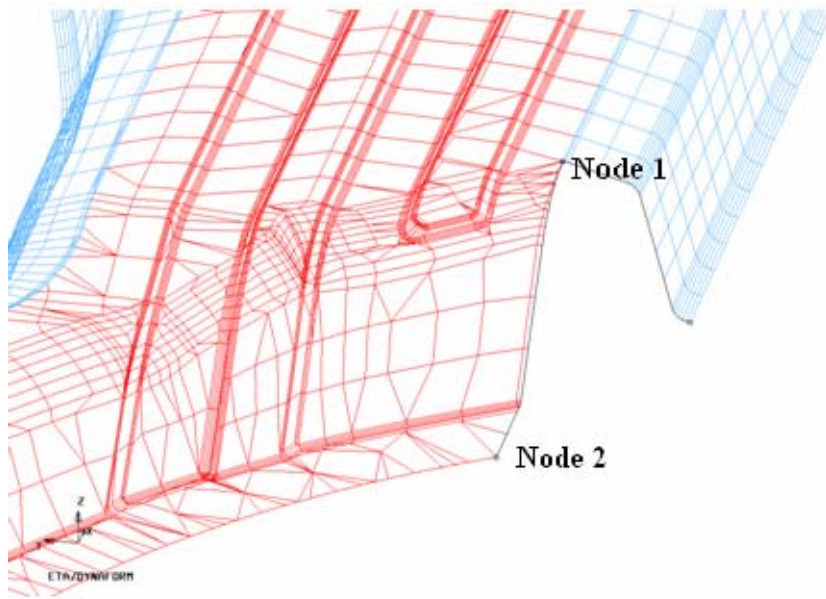

Figure 6.3.20 Select Two Nodes on Part Boundary
3. Select two nodes on the part boundary as illustrated in Figure 6.3.20. Click on the YES button to accept the defined corner region.
4. Click on the APPLY button to generate the corner addendum as illustrated in Figure 6.3.20.